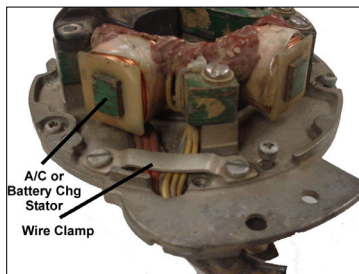

Fig. 1
5. Remove the wire clamp bracket on the top of the Stator Plate. (Fig. 1)